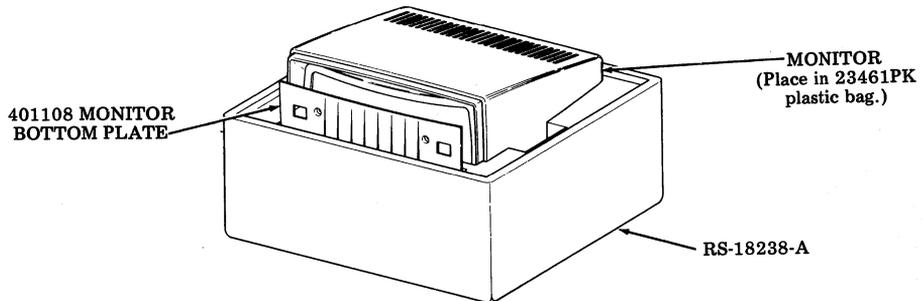
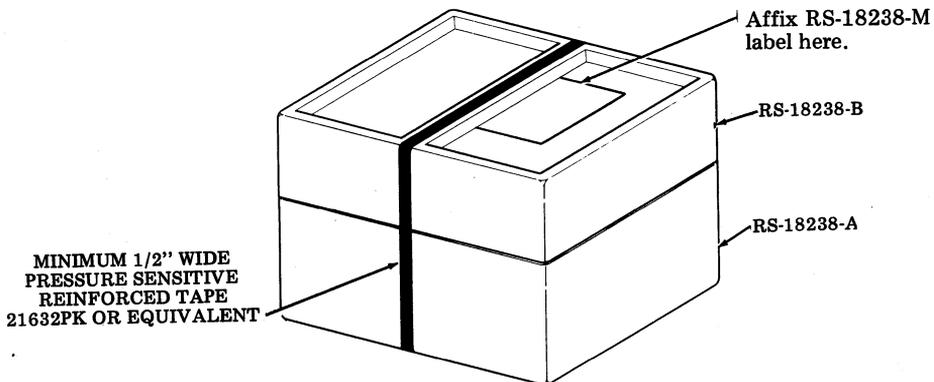

Fig. 6
Fig. 7
Step 3. Position monitor and bottom plate in position shown in Fig. 6. Position cover and secure with a band of pressure sensitive reinforced tape, as illustrated in Fig. 7.